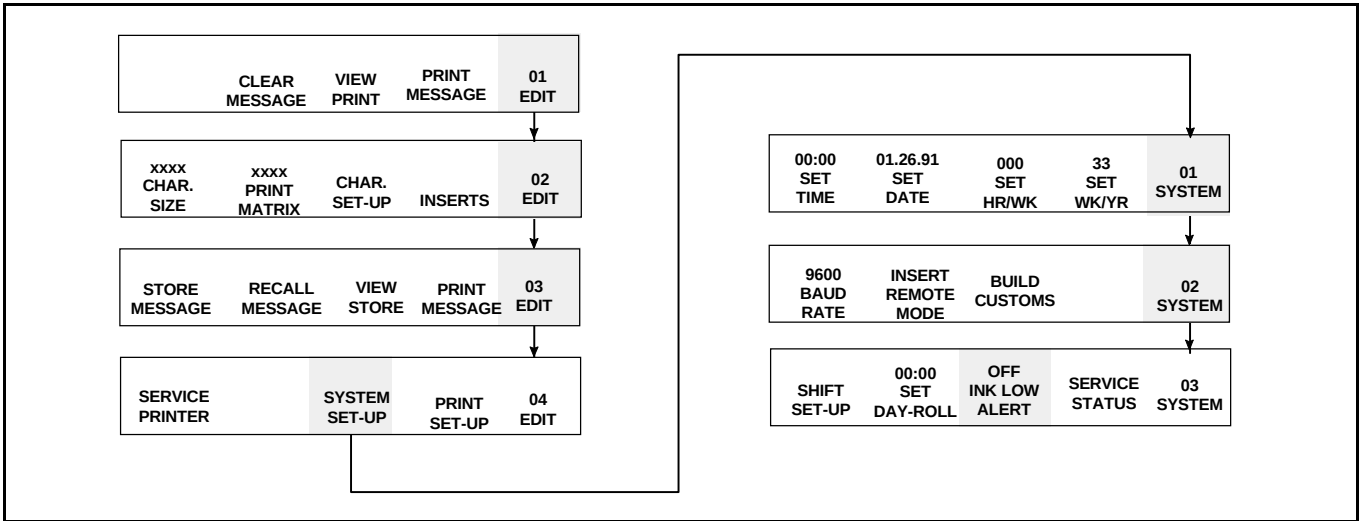

Figure 7-14. Accessing Frame <03 SYSTEM>
1. Begin in Frame <03 SYSTEM>. Refer to Figure 7-14.